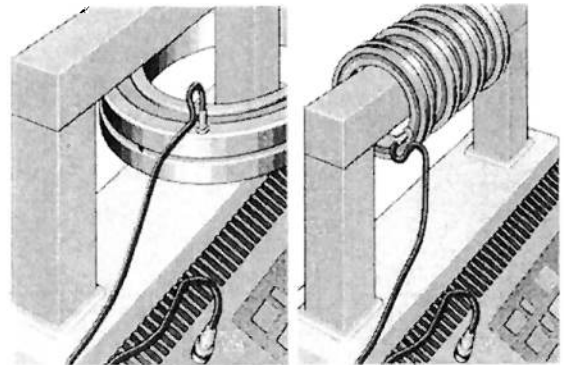

Fig. 1 - Heating with an induction heater
- Induction heater (see Figure 1).